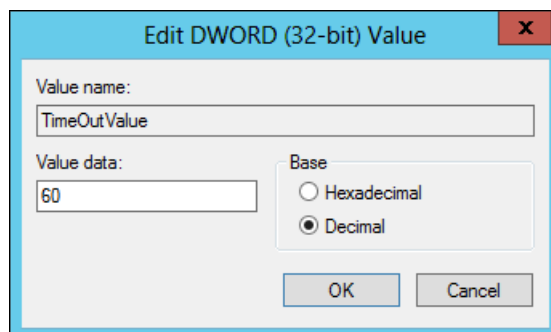

Figure 4-1 Editing the disk I/O timeout value on Windows 2012 R2
4. Double-click `TimeOutValue`, or right-click it and select **Modify** to view and modify the current timeout value. The window shown in Figure 4-1 opens.